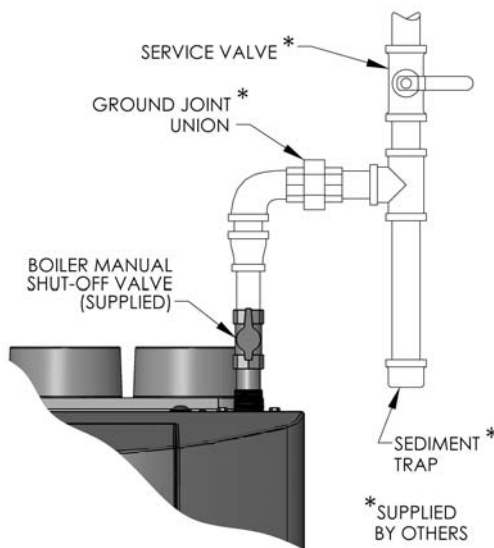

Figure 5.1: Gas Supply Pipe and Shut-off
2. Install a sediment trap as shown in Figure 5.1. Be sure to allow clearance from the floor or other horizontal surface for removal of the pipe cap.
4. Install a service valve as shown in Figure 5.1 to allow the gas supply to be interrupted for service.
7. Figure 5.1 shows the gas shutoff valve for the PUREFIRE® boiler. This valve is to be used in addition to the gas service valve shown upstream of the sediment trap.